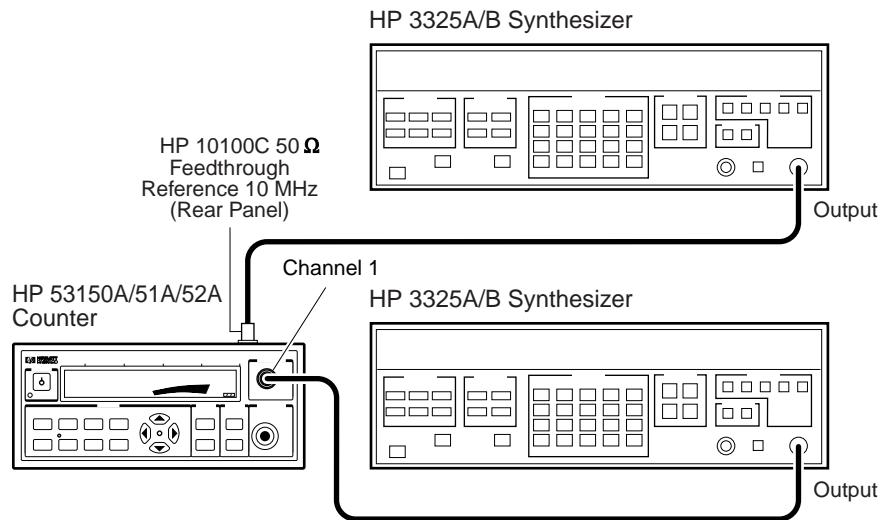

Figure 1-1. External Timebase Test Setup
- 2** Connect an HP 10503 series coaxial cable between the output of the first HP 3325A/B Synthesizer and the 50 Ω Terminator (see Figure 1-1).